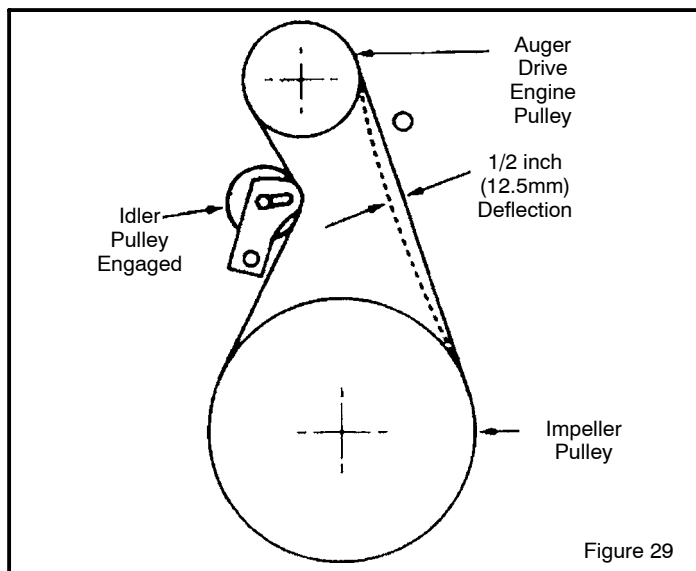

Figure 29
5. Have someone engage auger drive clutch. Check tension on belt (opposite idler pulley). Belt should deflect about 1/2 inch (12.5 mm) with moderate pressure (Figure 29). You may have to move idler pulley more than once to obtain the correct tension.